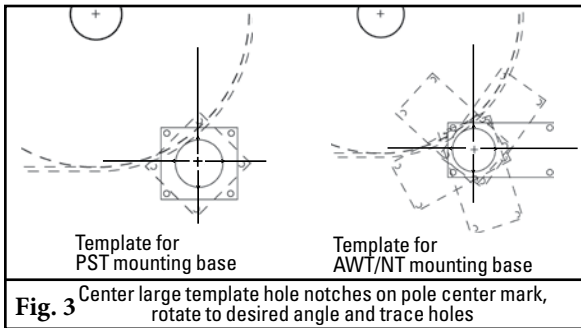

Fig. 3 Center large template hole notches on pole center mark, rotate to desired angle and trace holes
- Mark and cut the mounting base holes.** Using the mounting base template provided in the instruction packet, position the large pole hole of the template on the chute with the hole notches aligned with the layout lines. Trace the pole hole and mounting holes (Fig. 3). Each base can be mounted in any position 360° around the pole as long as the pole's center point does not change. Cut the holes on both sides of the chute.